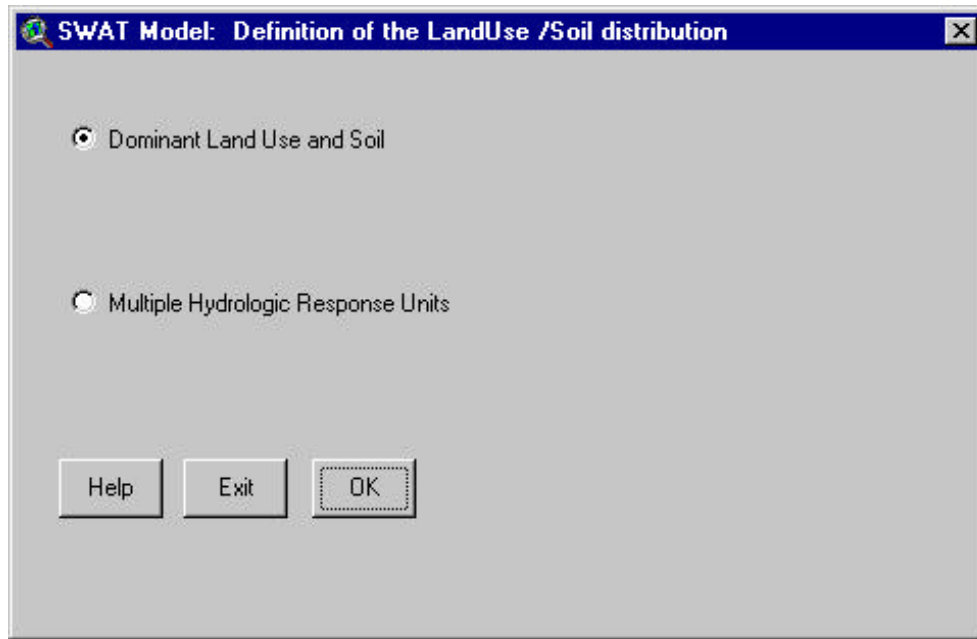

Figure 6.53
2. The *Swat Model: definition of the land use / soil distribution* dialog box will be displayed (Figure 6.53).